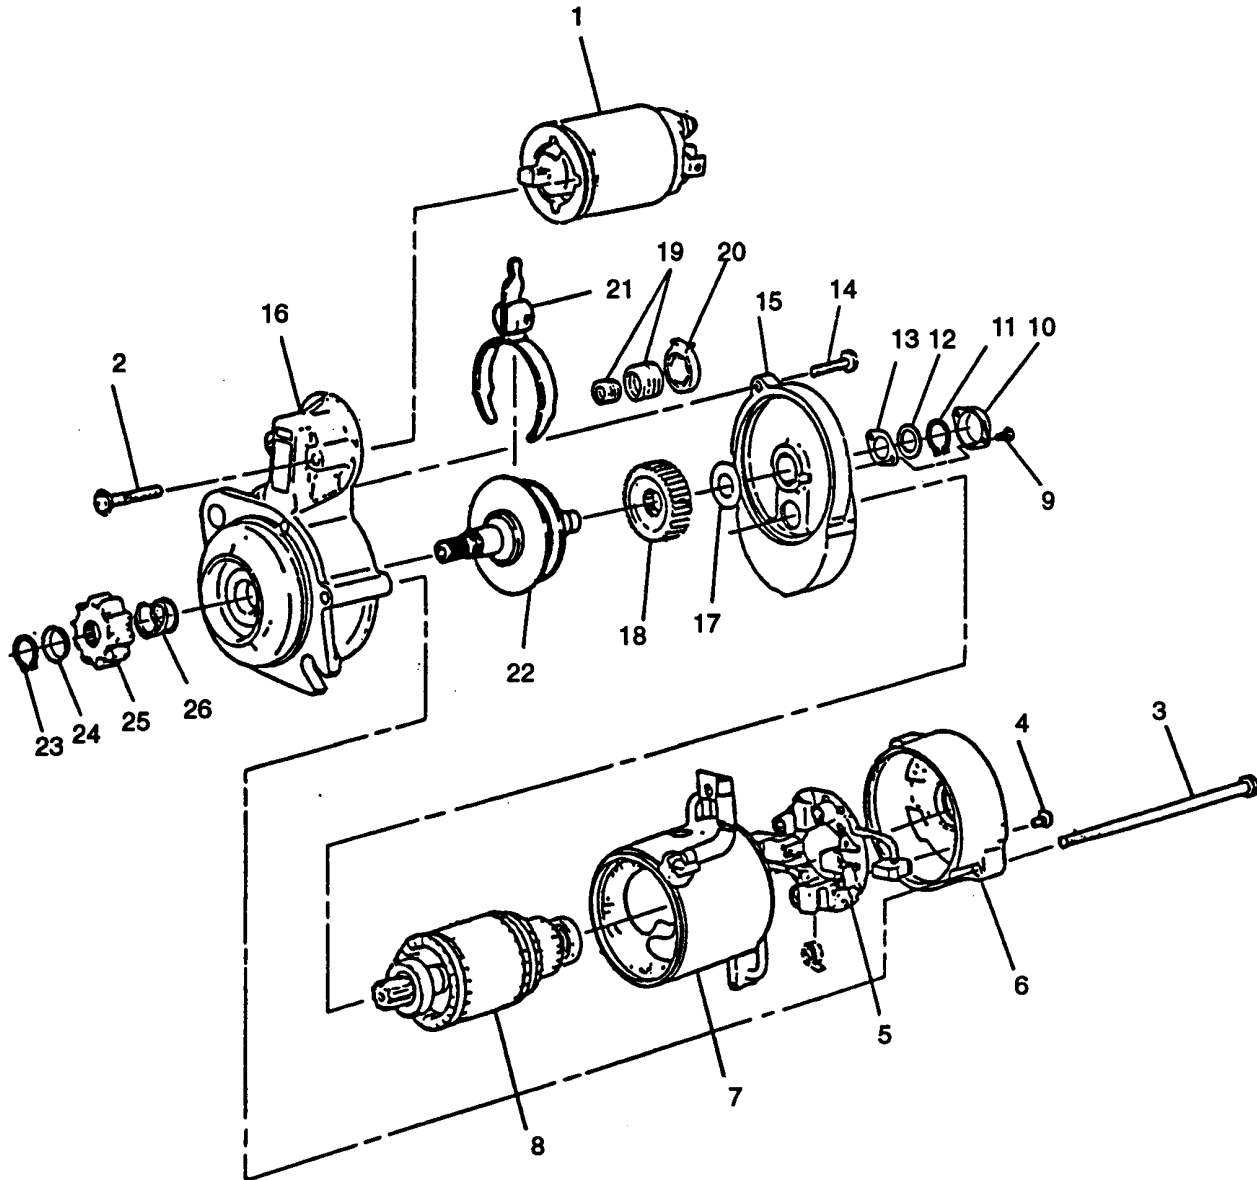

FIGURE 3-22. Starter Assembly
- a. Tag and disconnect wire from solenoid (1, FIGURE 3-22).
- b. Remove two screws (2) securing solenoid (1); remove solenoid.
- (1) Armature (8, FIGURE 3-22) shaft gear.